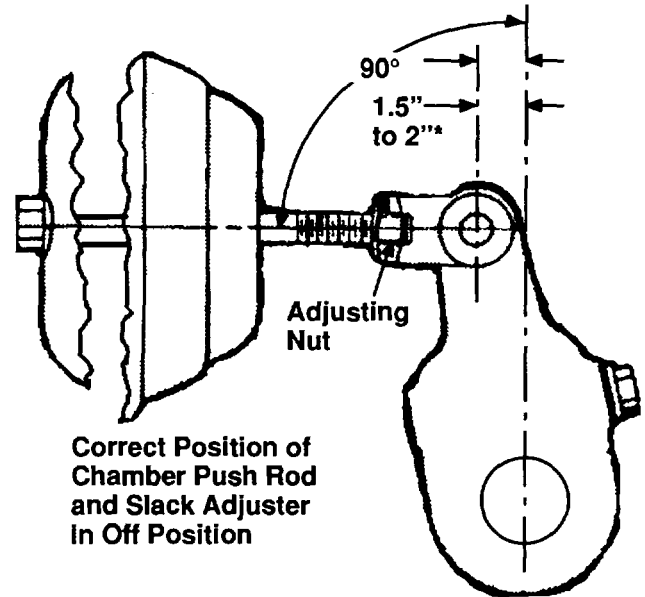

Figure 4-45. First Adjustment, Slack Adjuster
(1) Lift semitrailer so all wheels off the ground. Block the frame securely.
(2) Release all spring forces from slack adjuster and camshaft by applying air to the air brake chamber.
(3) For the first adjustment, turn the adjusting nut counterclockwise until the brake lining is tight against the drum, Fig. 4-45. Wheel will not rotate freely.
(4) Turn the adjusting nut in the opposite direction for only two or three clicks so that the brake lining just clears the drum. Rotate the drum to check the clearance. It should be between 1.5" and 2". When